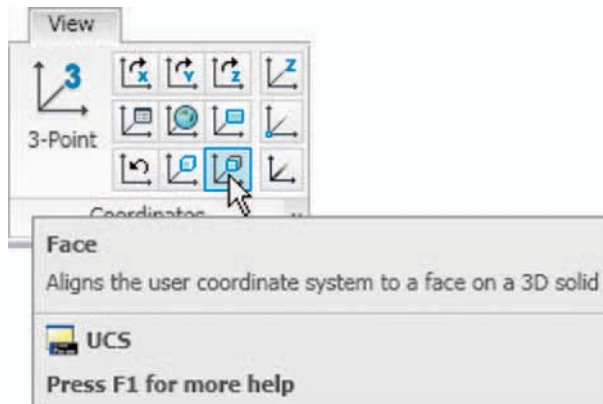

Fig. 17.23 The **Face** icon from the **View/Coordinates** panel
4. Click the **Face** tool icon in the **View/Coordinates** panel (Fig. 17.23) and place the 3D model in the **UCS** plane shown in Fig. 17.24, selecting the sloping face of the extrusion for the plane and again **Zoom to 1**.